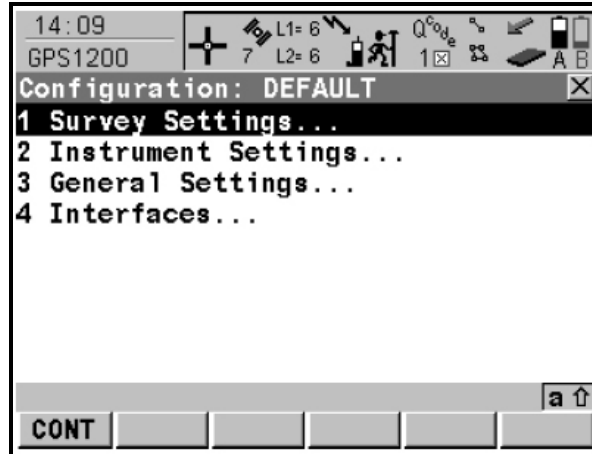

Figure 5. GRX1200 Configuration Menu Options
14. You will be given the menu options in Figure 5. Choose the “**Interfaces...**” option. This option will bring up the following interfaces. Highlight the “**Meteo**” option to interface a MET 3 or MET3A Broadband Meteorological System. Press the “**F3**” (Edit) button to select it.